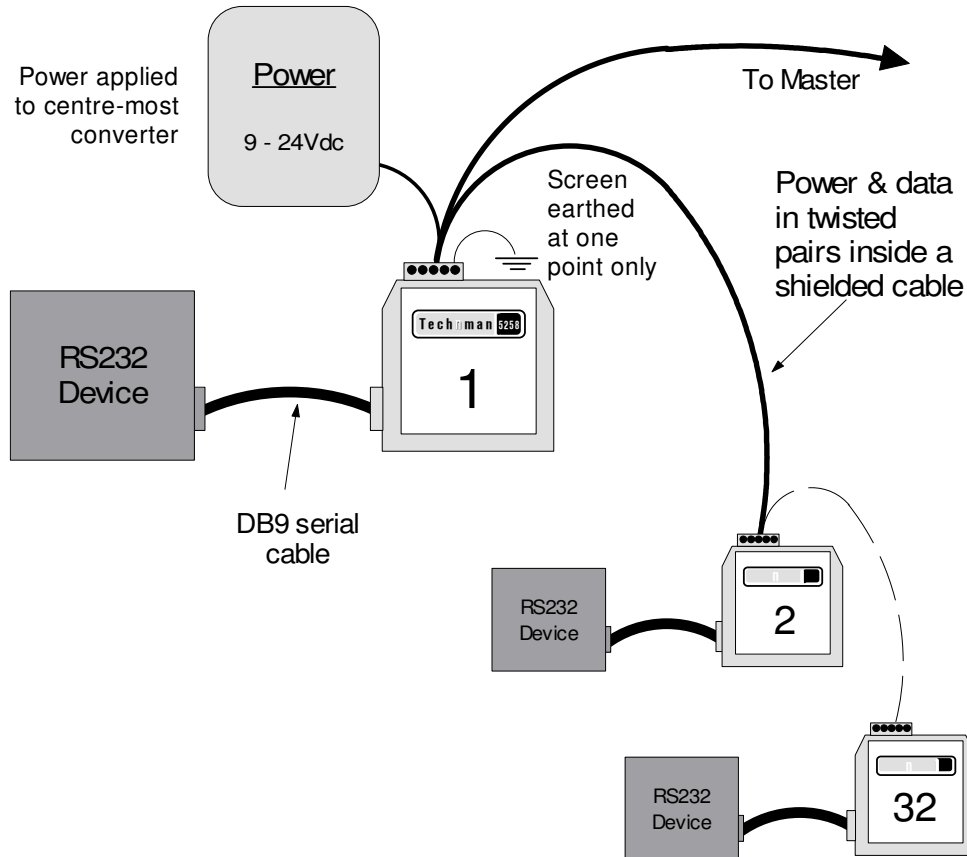

Figure 3 – Multiple converters connected in 'Daisy-chain'.
2. Always connect devices to the RS485 or RS422 network in 'daisy-chain', as shown in figure 3 page15, with each device connected in a row. Never connect devices in a 'star', as each branch will create unwanted reflections, leading to data errors.